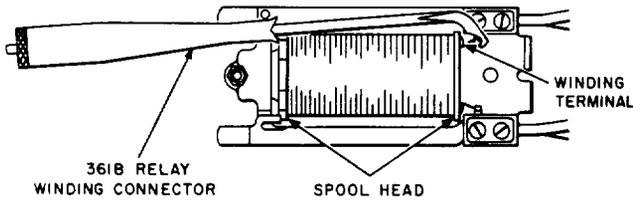

Fig. 2—Connecting to Winding Terminal at an R-Type Relay
2.02 Relays (Except Wire Spring, Dry Reed, and Polarized), Switches, and Timers: Fig. 2 through 9